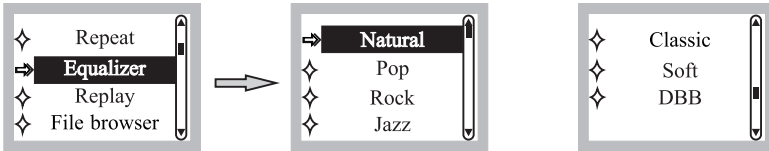

Fig. 12
(G) Equalizer Mode, Fig. 12:
- (1) Press PRV/TEN ◀◀ or NEXT/ TEN ▶▶ to select parameter.
- (2) Press PLAY/PAUSE ⏸ to confirm.
- (3)